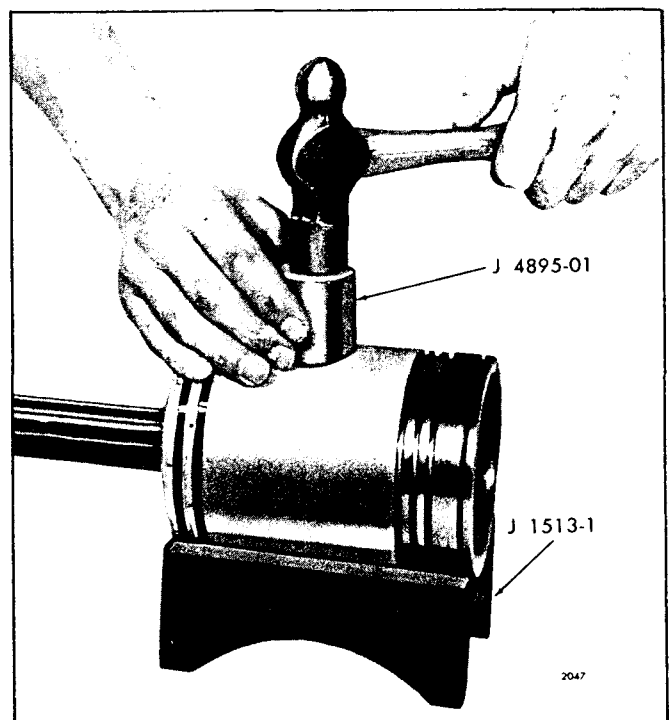

Fig. 9 - Installing Piston Pin Retainer with Tool J 4895-01
2. Rest the piston in the holding fixture (Fig. 9).